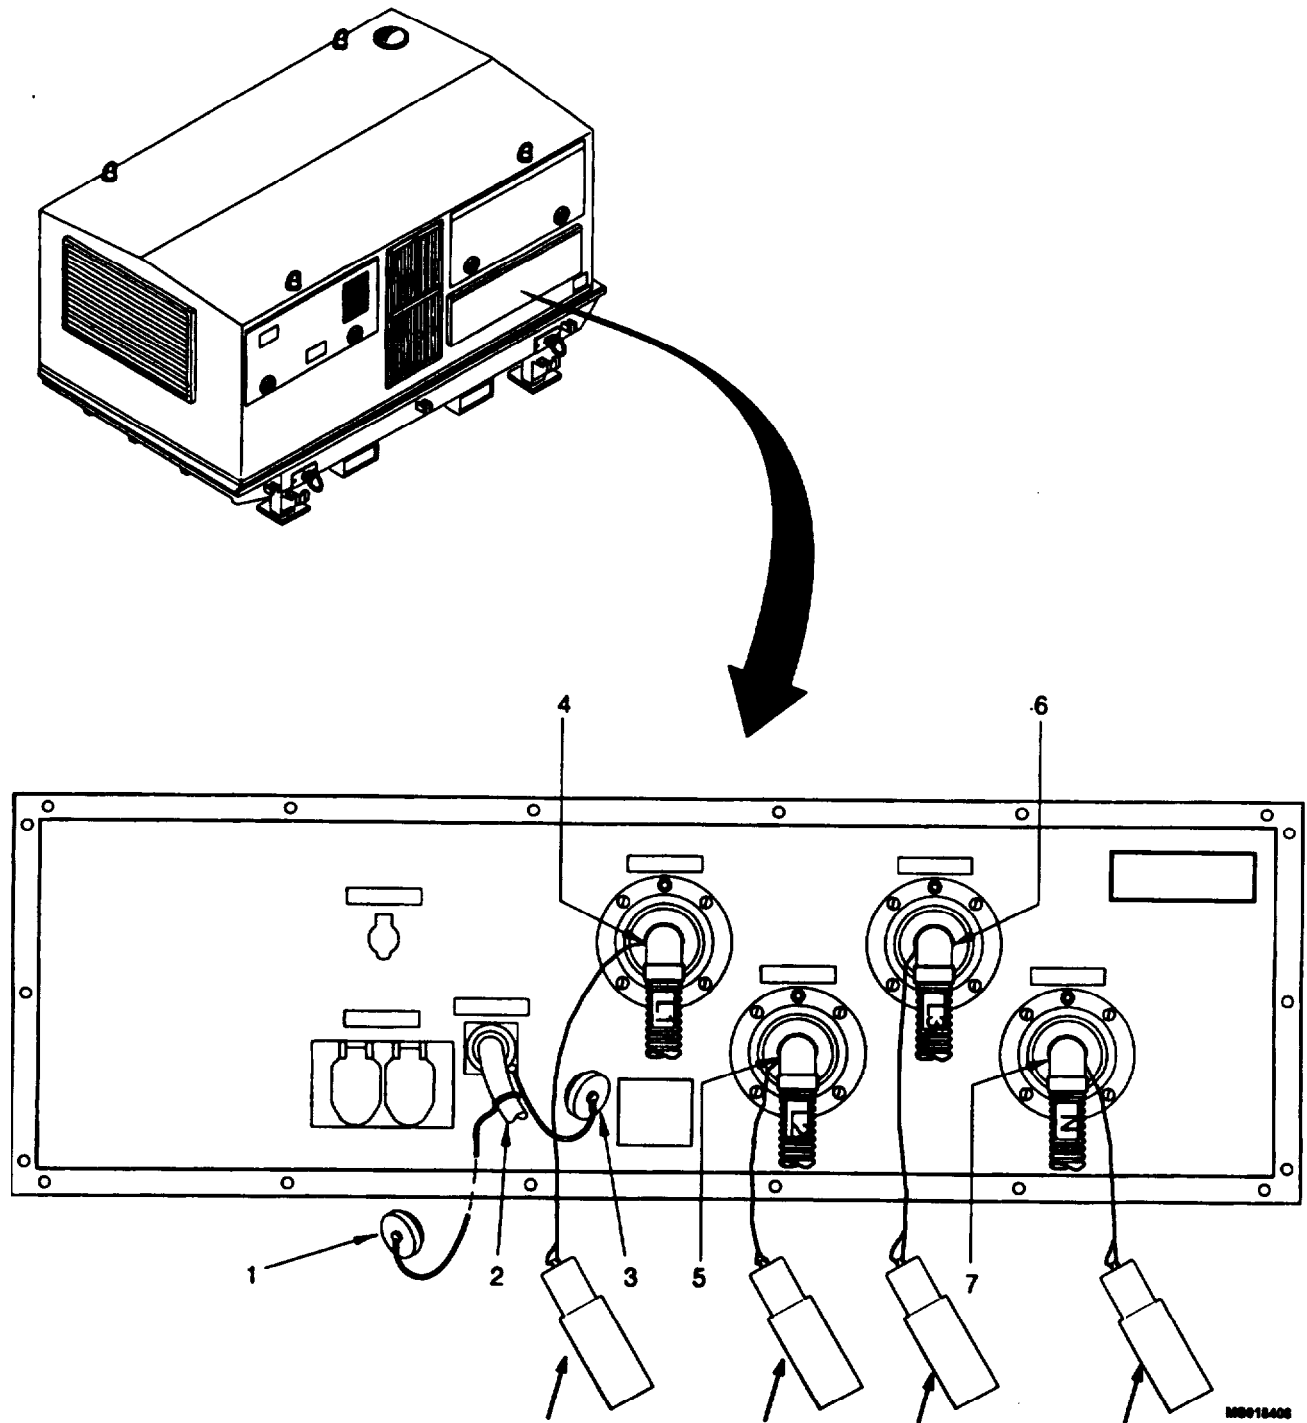

Figure 2-21 Disconnecting Control and Power Cables.
- (1) Unscrew control cable (2, figure 2-21) and pull out of J9 PARALLEL OPERATION receptacle.
- (2) Place protective cap (1) on control cable connector.
- (3) Place protective cap (3) on J9 PARALLEL OPERATION receptacle.
- (1) Unscrew connector (4, figure 2-21) and pull power cable L1 out of receptacle L1 (ØA).
- (2) Place protective cover (8) on cable connector.
- (3) Unscrew connector (5) and pull power cable L2 out of receptacle L2 (ØB).
- (4) Place protective cover (9) on cable connector.
- (5) Unscrew connector (6) and pull power cable L3 out of receptacle L3 (ØC).
- (6) Place protective cover (10) on cable connector.
- (7) Unscrew connector (7) and pull power cable N out of receptacle N.
- (8) Place protective cover (11) on cable connector.